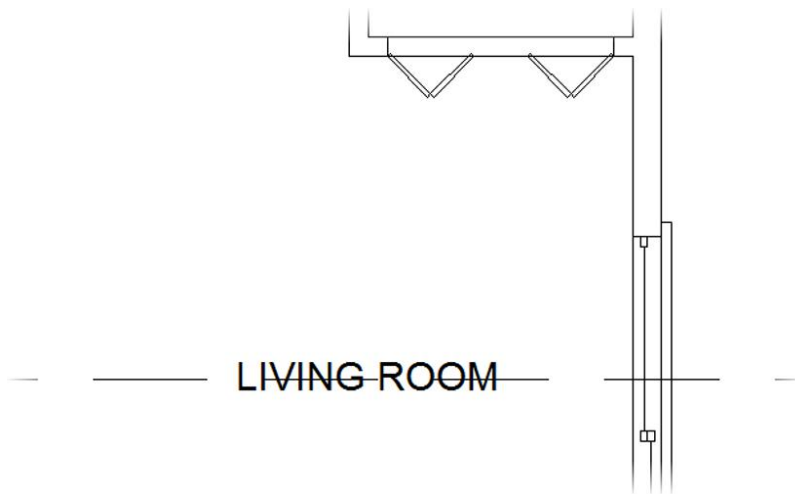

FIGURE 8.25: The selected text overlapping the ridgeline
3. Select the `LIVING ROOM` text, and use the `MOVE` command to move it so that it rests on the ridgeline, as shown in Figure 8.25.